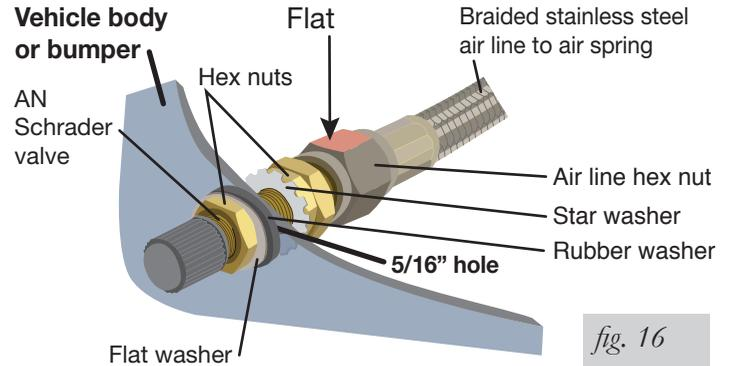

fig. 16
2. Tighten the air line hex nut finger tight, then use 2 wrenches to turn 1 additional flat (1/6 of one full turn). **Do not overtighten** (Figs. 16 or 17). The easiest way to tighten the fitting is off the vehicle. Install the Schrader valve in the chosen location.